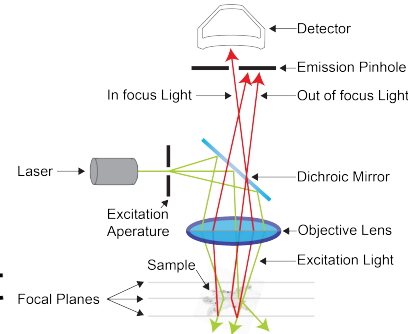

Figure 5: *Schematic diagram confocal light diffraction*
- Figure 5:"Confocal Microscopes", *Imb.uq.edu.au*, 2020. [Online]. Available: <https://imb.uq.edu.au/facilities/microscopy/hardware-software/confocal-microscopes>. [Accessed: 01- Oct- 2020].